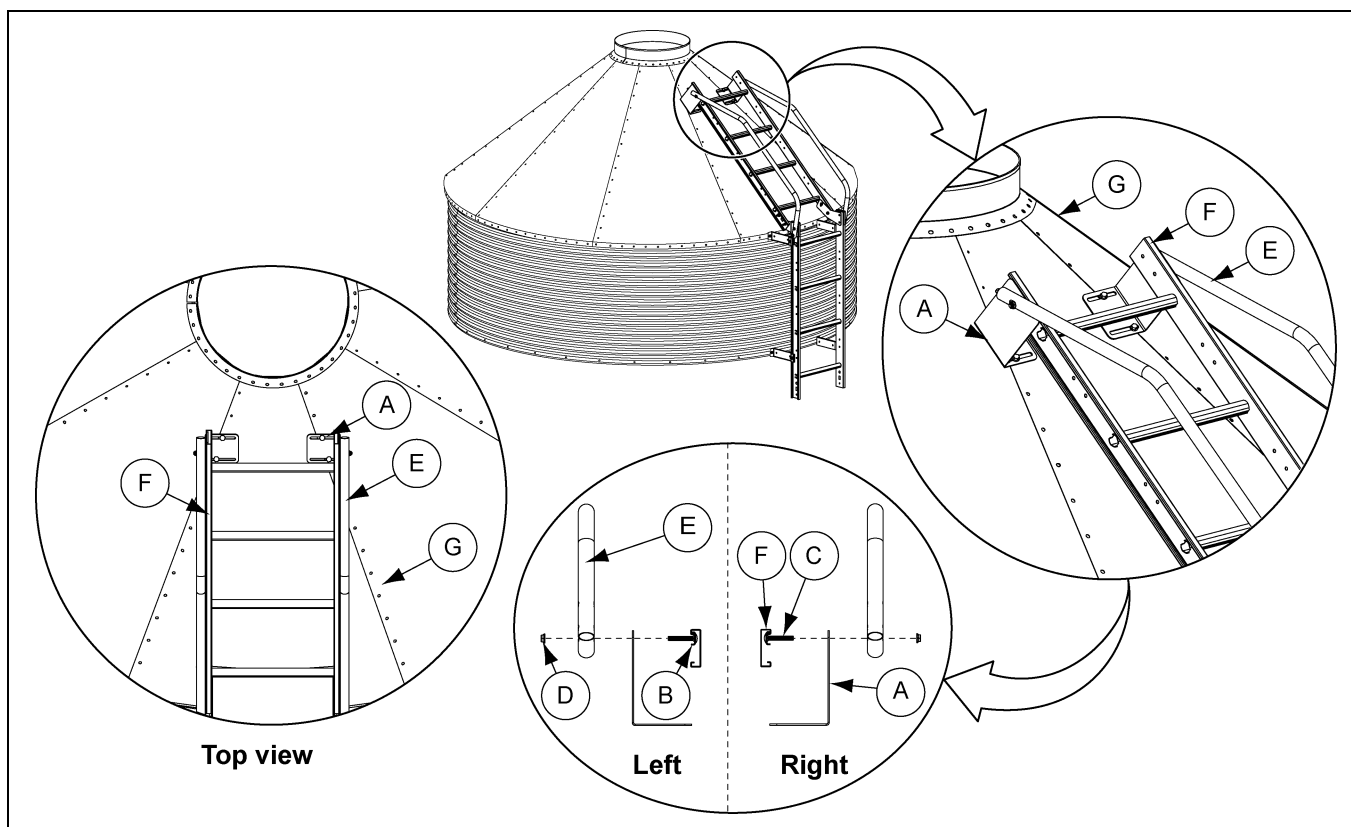

Figure 8C 6'-30°, 9'-30° and 9'-40° Roofs
1. The roof ladder (F) requires support brackets (A) at the top of the ladder.
2. **6'-30°, 9'-30° and 9'-40° Roofs:** The support brackets (A) are bend in towards the center of the roof ladder (F). *(See Figure 8C.)*